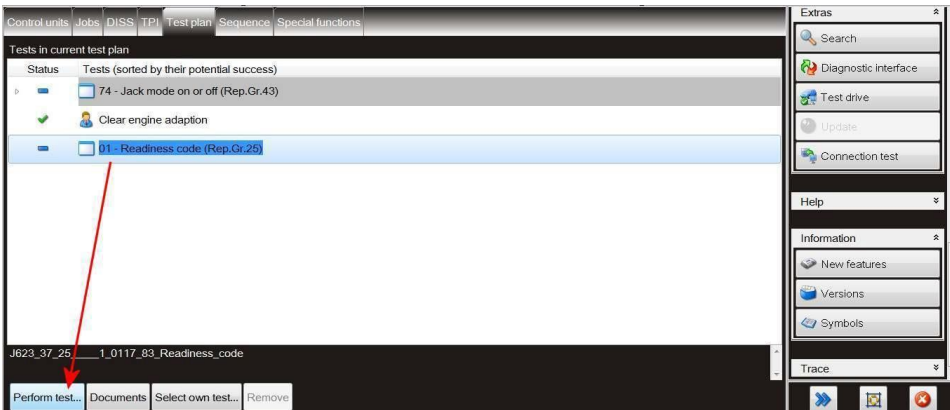

Figure 10
11) Referring to Figure 10, Once the Clear engine adaption procedure is completed the operative will automatically be guided to conduct the Readiness code procedure